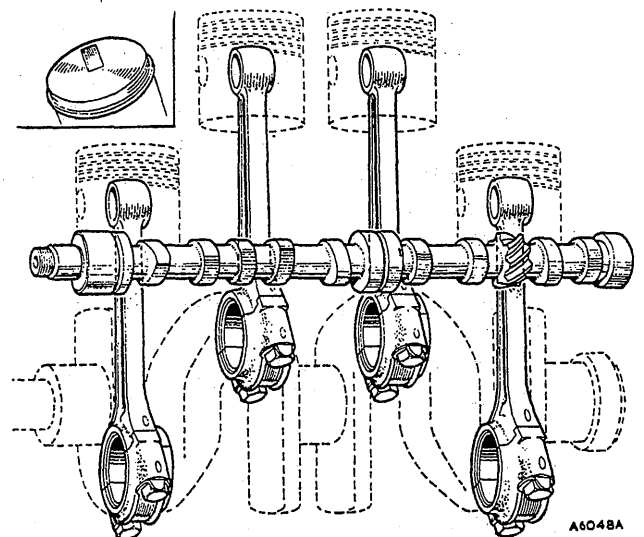

Fig. A.15
- (20) Ensure that the big-end bearings are correctly located in the connecting rods and caps, and fit the connecting rods and caps to the crankshaft with the bolt heads towards the camshaft side of the engine. The combustion troughs in the piston crowns should now be on the opposite side of the engine to the camshaft. Tighten the connecting rod bolts to the torque figure given in 'GENERAL DATA'.
- NOTE.**—The big-end bearings are offset on the connecting rods, and the rods should be fitted so that the bearings of Nos. 1 and 3 are offset towards the rear of the engine, and the bearings of Nos. 2 and 4 are offset towards the front (see Fig. A.15).
- (21) Refit the cylinder head by reversing the procedure in Section A.8, (17) to (19), (14) and (15), (11) and (12), and (6) to (9), noting the following points: